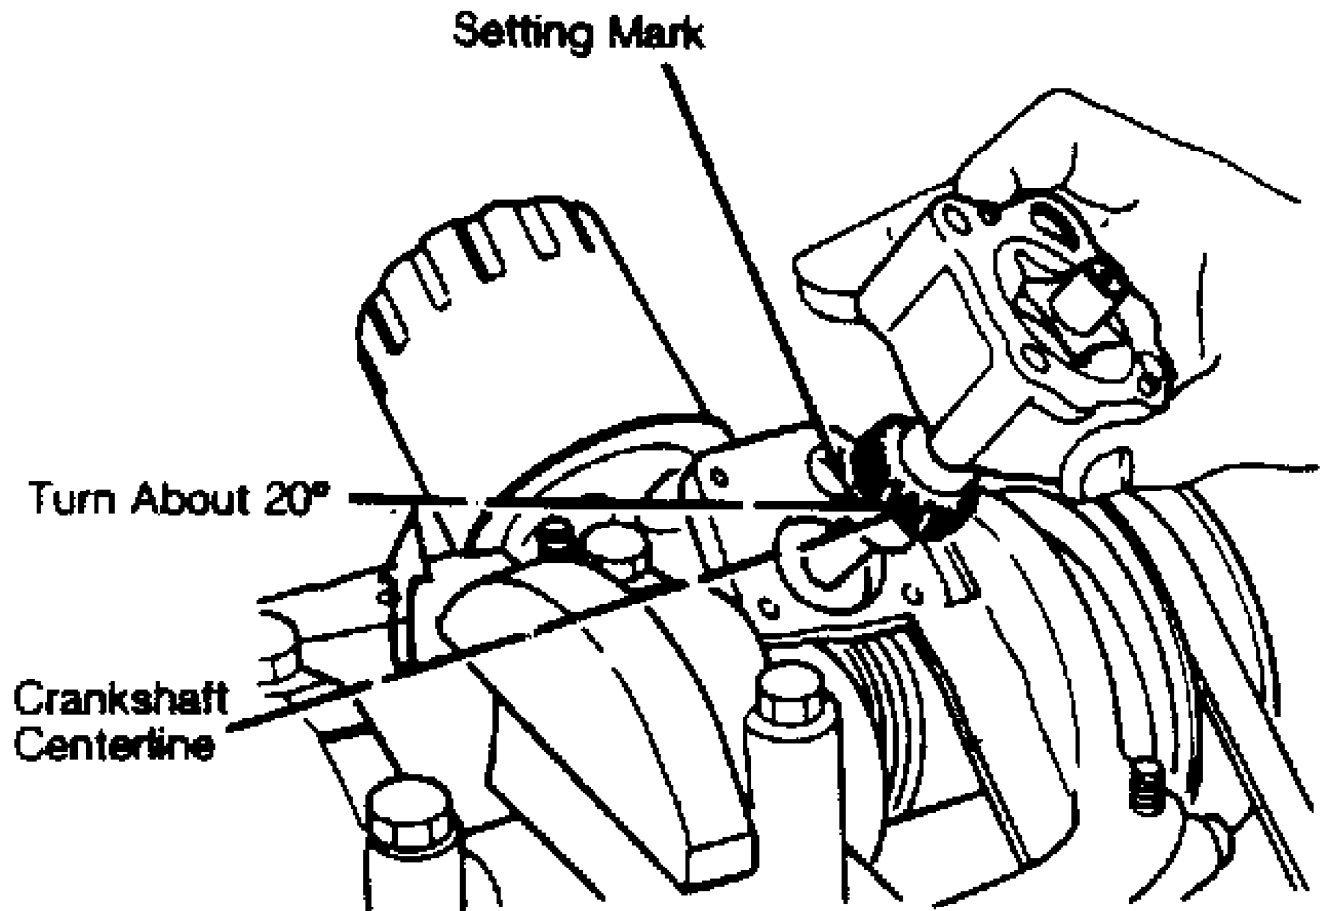

Fig. 12: Installing Oil Pump on 1.9L Models
2) Ensure that marks on oil pump inner and outer rotors are aligned. Engage oil pump drive gear with pinion gear on crankshaft. Ensure that alignment mark is facing to the rear and approximately 20 degrees in a clockwise direction away from crankshaft. See Fig. 12.
3) Ensure that mark on drive gear is facing rear of engine with oil pump installed. Slot at end of drive shaft must be parallel with front face of cylinder block, and offset forward. See Fig. 12.